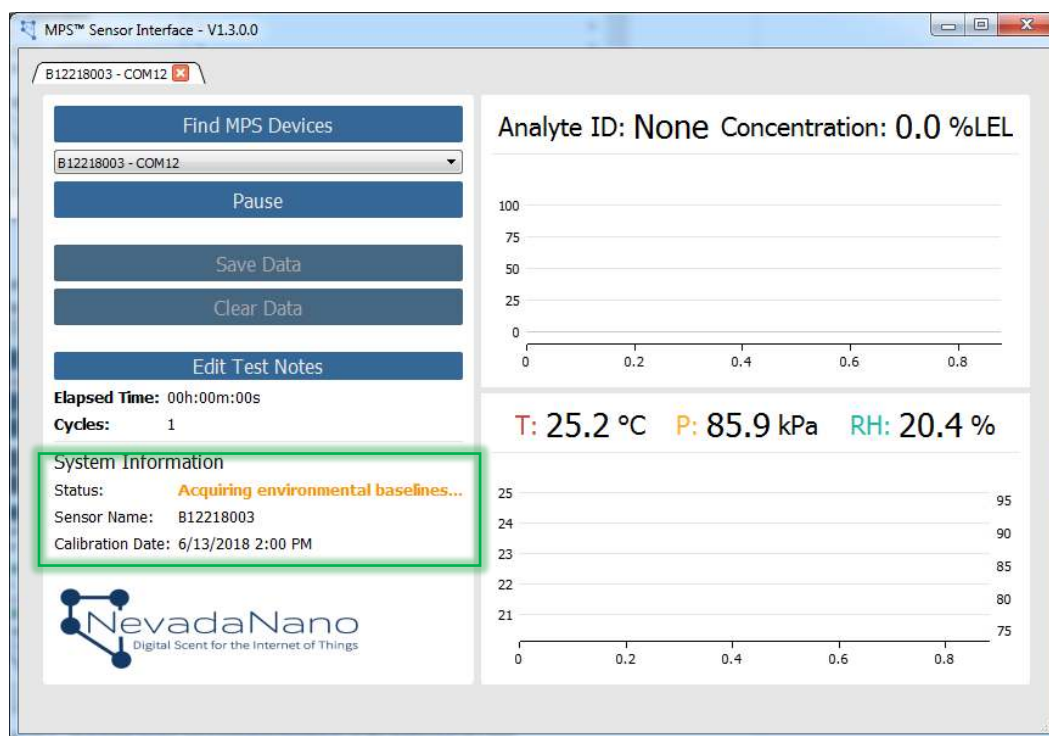

Figure 7 – Acquiring sensor environmental baselines at the beginning of a test.
2. The unit will acquire 10 baseline readings (Fig. 7, highlighted in green). After this stabilization period, the sensor is ready for testing.